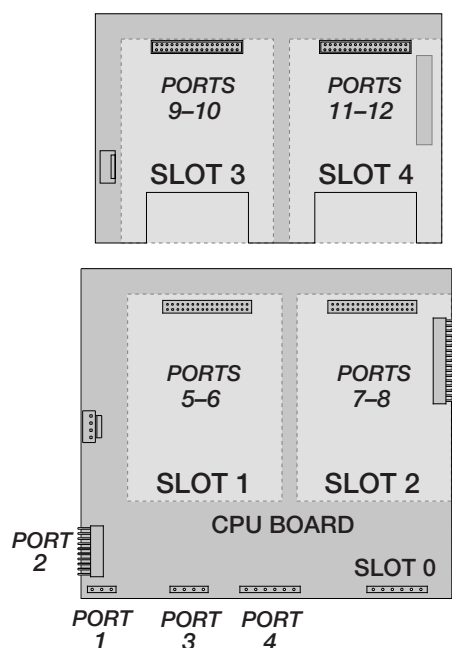

Figure 3-15. Serial Port Assignments, Two-Card Expansion Board
*Example: In a system with a two-card expansion board, port assignments are reserved as illustrated in Figure 3-15. If the only serial card installed in this system is in SLOT 4 of the expansion board, the system consists of serial ports 1–4 (on the CPU board) and ports 11–12.*